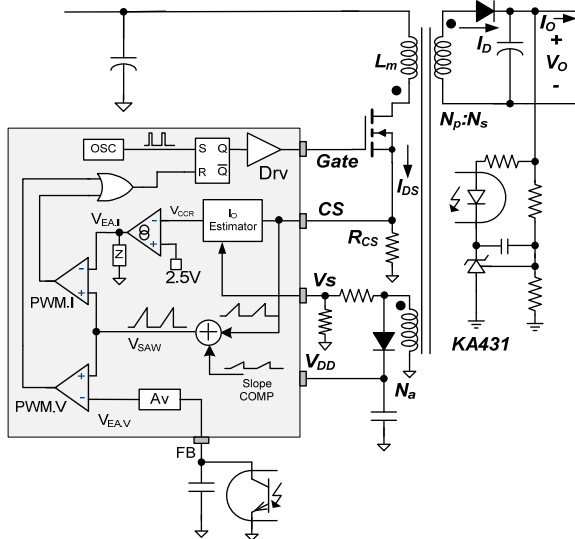
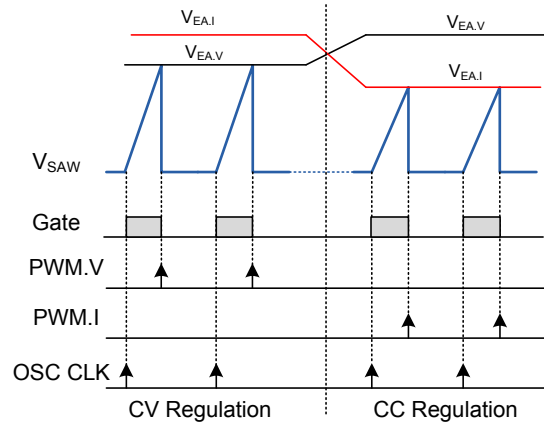

Figure 24. Internal PWM Control Circuit
Figure 25. PWM Operation for CC and CV
Figure 24 shows the internal PWM control circuit. The Constant Voltage (CV) regulation is implemented in the same way as in a conventional isolated power supply, where the output voltage is sensed using a voltage divider and compared with the internal 2.5V reference of shut regulator (KA431) to generate a compensation signal. The compensation signal is transferred to the primary side using an opto-coupler and scaled down through an attenuator, A_v , generating $V_{EA,V}$ signal. Then, the error signal $V_{EA,V}$ is applied to the PWM comparator (PWM.V) to determine the duty cycle.
The two error signals, $V_{EA,I}$ and $V_{EA,V}$, are compared with an internal sawtooth waveform (V_{SAW}) by PWM comparators PWM.I and PWM.V, respectively, to determine the duty cycle. Figure 24 shows the outputs of two comparators (PWM.I and PWM.V) combined with OR gate and used as a reset signal of flip-flop to determine the MOSFET turn-off instant. Of $V_{EA,V}$ and $V_{EA,I}$, the lower signal determines the duty cycle, as shown in Figure 25. During CV regulation, $V_{EA,V}$ determines the duty cycle while $V_{EA,I}$ is saturated to HIGH. During CC regulation mode, $V_{EA,I}$ determines the duty cycle while $V_{EA,V}$ is saturated to HIGH.